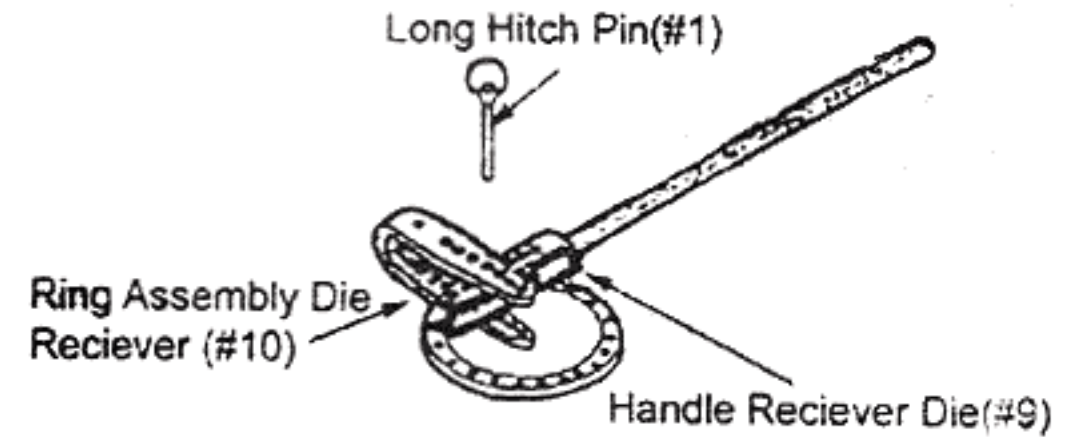

Figure 2 - Assembling Handle
- Step 5: Place the HANDLE DIE RECEIVER(#9) between the ASSEMBLY SPACER DIE RECEIVER and secure in place using the LONG HITCH PIN(#1) as shown in Figure2